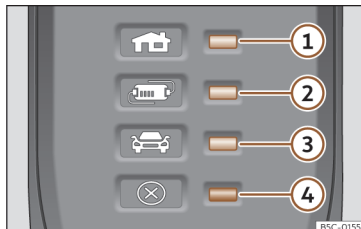

Fig. 211 On the charging cable for power sockets: Indicator lamps on the protection device.
>>> Fig. 211:
The electronic protection device >>> Fig. 211 ensures that the charging connector does not receive current until it is plugged in to the vehicle's charging connector.
One or more indicator lamps >>> Fig. 211 ①, ② or ③ light up green. >>>
Display»» Fig. 211	Meaning
If the red warning light ④ flashes or turns on without one of the indicator lamps »» Fig. 211 ①, ② or ③ also turning on continuously on the status indicator, there is a fault.